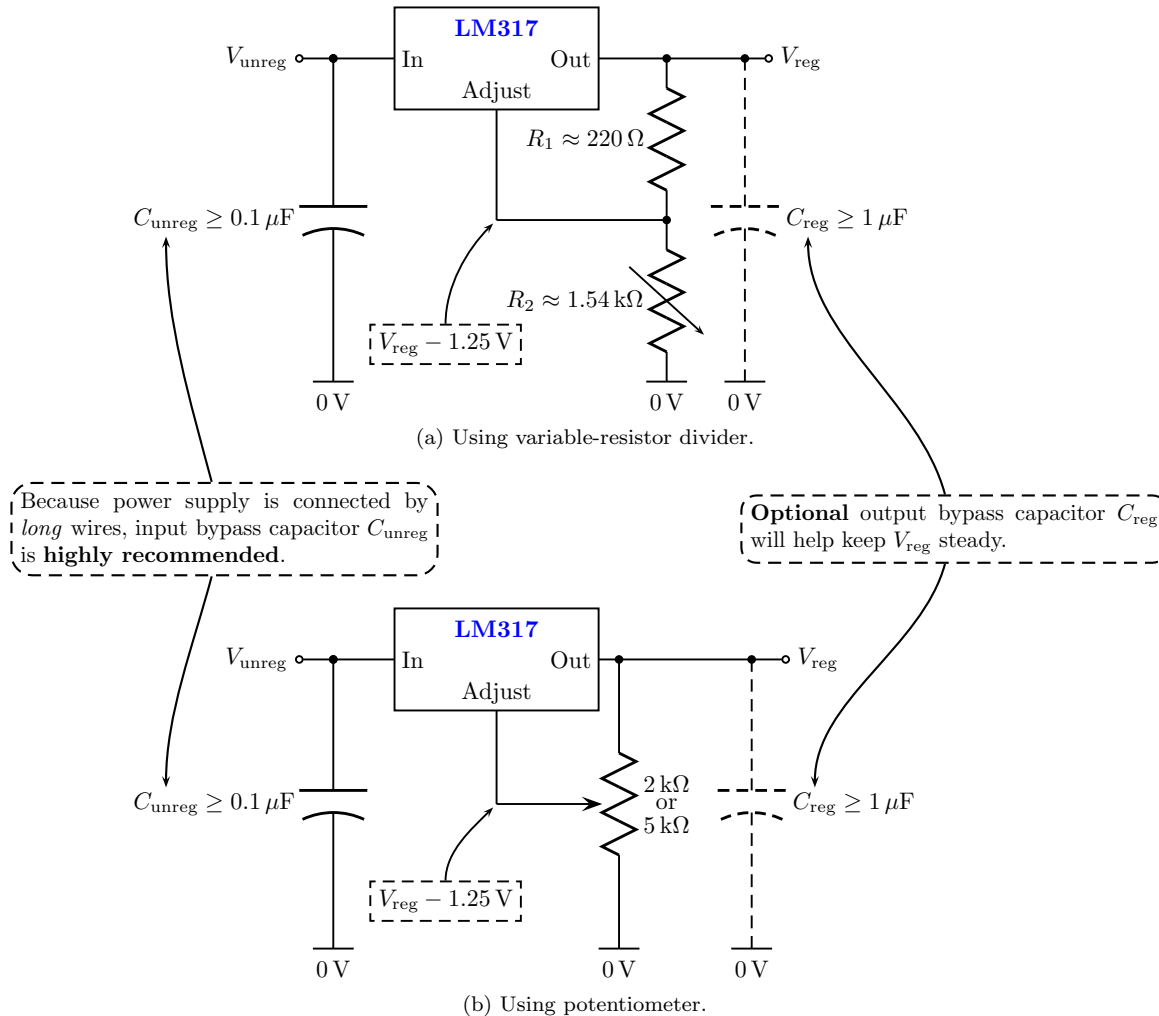

Figure 8.1: LM317 adjustable voltage regulator. Use $V_{\text{unreg}} \approx 15\ \text{V}$ and set $V_{\text{reg}} \approx 10.0\ \text{V}$.
In the class project, we will use a version of the regulator introduced in Section 6 to implement two 10 V_{DC} regulated supplies, one for our transmitter and one for our receiver. However, for reasons discussed in Section 7, we use a regulator shown in Figure 8.1, which has added *bypass capacitors*.
In Figure 8.1\(a\), the output
The circuit in Figure 8.1\(b\) may also be used with caution. In either circuit, input capacitor $C_{\text{unreg}} \approx 0.1\ \mu\text{F}$ should be used to steady the input supply rail. Output capacitor $C_{\text{reg}} \approx 1\ \mu\text{F}$ may be used if artifacts are being coupled into circuit signals via the supply (e.g., clock noise). Also, a $\sim 0.1\ \mu\text{F}$ capacitor to ground can be placed at the $10\ \text{V}$ input to each circuit component. Finally, an additional **large** bypass capacitor (e.g., $1\text{--}10\ \mu\text{F}$) near LM317 from Adjust to ground can improve both *load transient* performance and PSRR.
1. Design, build, and tune a 10 V_{DC} regulator from **Figure 8.1** for the project's *transmitter*. Notice the *bypass capacitors*.
2. Design, build, and tune a 10 V_{DC} regulator from **Figure 8.1** for the project's *receiver*. Notice the *bypass capacitors*.